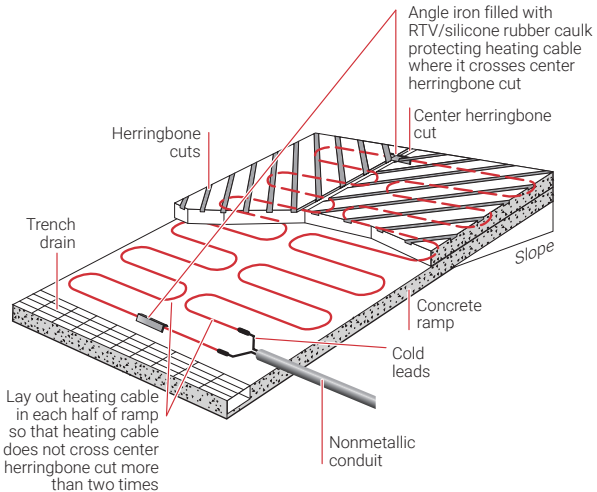

Figure 16: Recommended cable layout when herringbone pattern will be cut into the concrete surface
**Important:** If a herringbone pattern is to be cut into the concrete surface (Figure 16), adjust the depths of the cable supports (see Step 10 for details).
**Important:** If a herringbone pattern is to be cut into the concrete surface (Figure 16), ensure that the minimum concrete cover over the heating cables is maintained (see Step 10 for details).
**Important:** If a herringbone pattern is to be cut into the concrete surface (Figure 16), follow the guidelines in Step 10 when laying out the heating cable.
- Install the heating cables as shown in Figure 16. Ensure that each heating cable does not cross the center herringbone cut more than two times. This will prevent cable damage due to cracking along the center herringbone cut, the area most likely to crack.